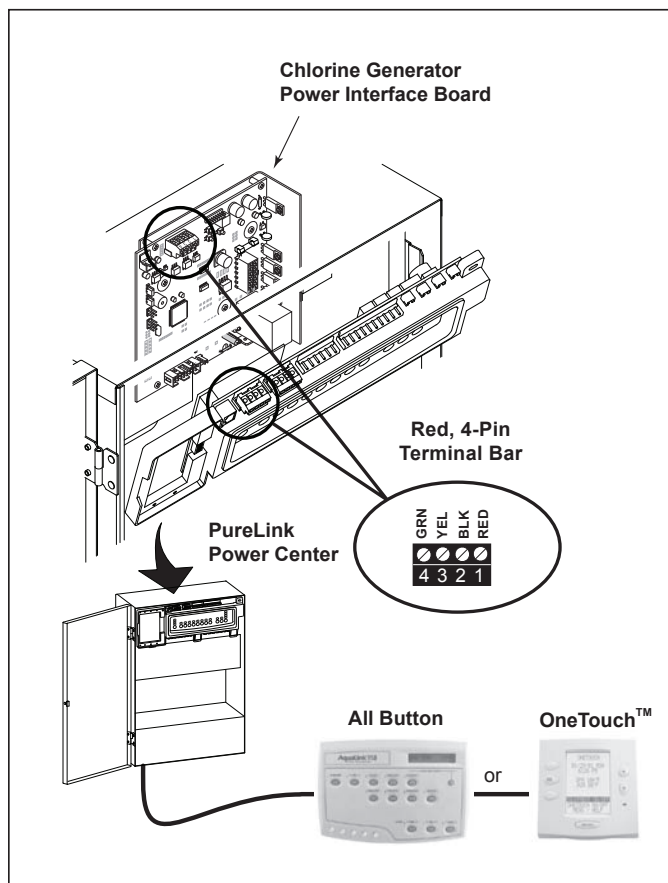

Figure 15a. Wiring a PureLink Control System Network
The chlorine generator electronics in the PureLink power center and the AquaLink RS controller require a four (4) wire connection to communicate. Any outdoor rated four (4) conductor cable, minimum 22 AWG (0.326 mm2), can be used. Locate the appropriate screw terminals on the circuit board according to Figures 15a and 15b. Wire the chlorine generator power interface board from the red 4-pin terminal bar to the AquaLink RS red 4-pin terminal bar. See Figure 15a.